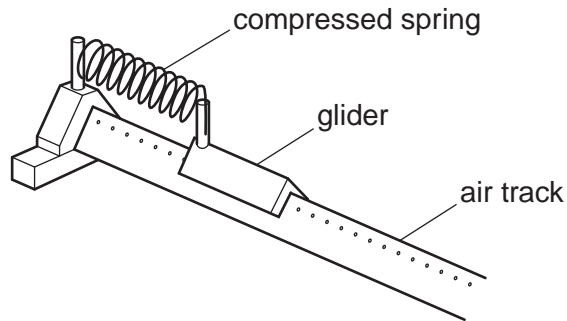

Fig. 6.2
- (c) A glider of mass  $0.180\text{ kg}$  is placed on a horizontal frictionless air track. One end of the glider is attached to a compressible spring of force constant  $50\text{ N m}^{-1}$ . The glider is pushed against a fixed support so that the spring compresses by  $0.070\text{ m}$ , see Fig. 6.2. The glider is then released.